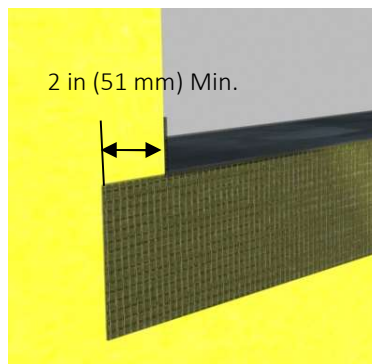

Fig. 1
- 1) Cut AquaFlash Mesh to proper length [rough opening plus 4 in (102 mm)] extending 2 in (51 mm) past each jamb – **Figure 1.**